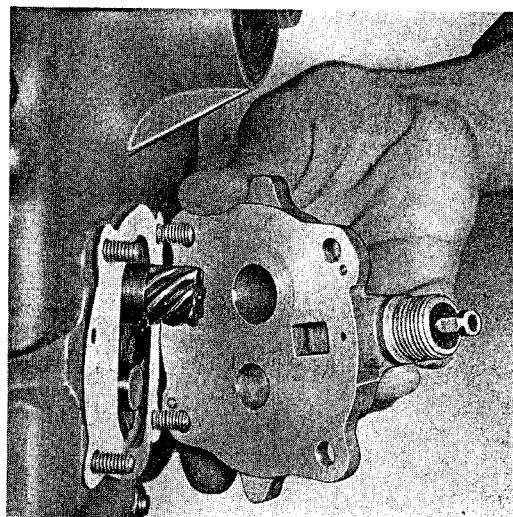

Fig. 122
7. Insure that the gasket is installed with its holes aligned with the corresponding oil passages (Fig. 122).